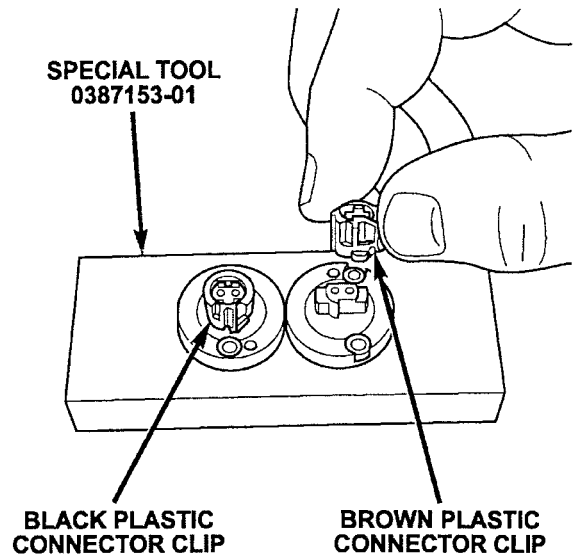

Figure 5
- 8. Place the new plastic connector clips onto Special Tool 0387153-01 as shown in Figure 5 and 6.